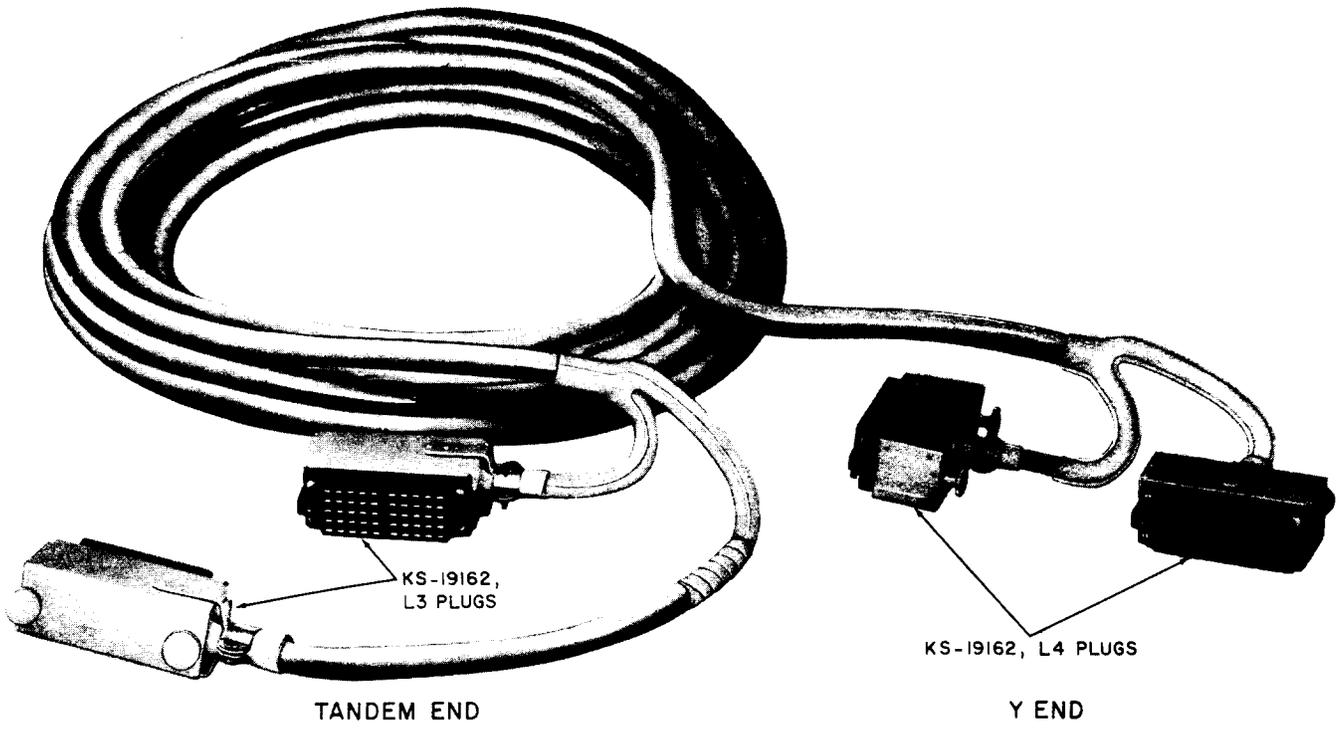

Fig. 3—P100A Cord
3.06 The P100A and P100B cords are illustrated in Fig. 3 and 4. The cords are not supplied with the test connectors but must be ordered separately.